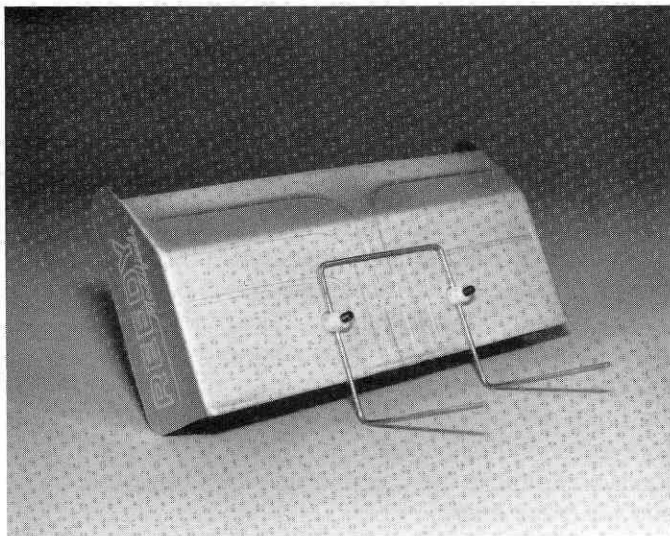

Fig. 163
□ **Fig. 163** Mount the #6182 wing as shown in the instructions in the wing bag.